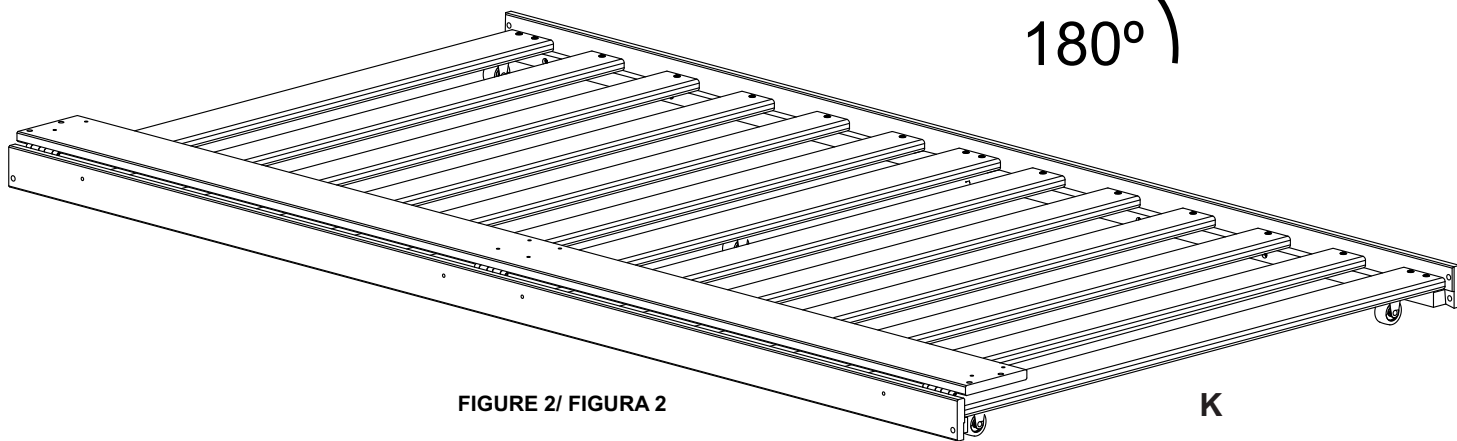

FIGURE 2/ FIGURA 2
2.1 - WITH CAUTION AND TWO PERSON HELP, TURN UPSIDE DOWN THE ALREADY ASSEMBLED TRUNDLE BASE (K) AND PLACING IT AS SHOWN ON FIGURE 2.
2.1 - AVEC PRÉCAUTION ET AVEC DEUX PERSONNES, CONTOURNEZ LA BASE DE LA CENTRALE DÉJÀ ASSEMBLÉE (K) ET PLACEZ-LA COMME INDIQUÉ À LA FIGURE 2.